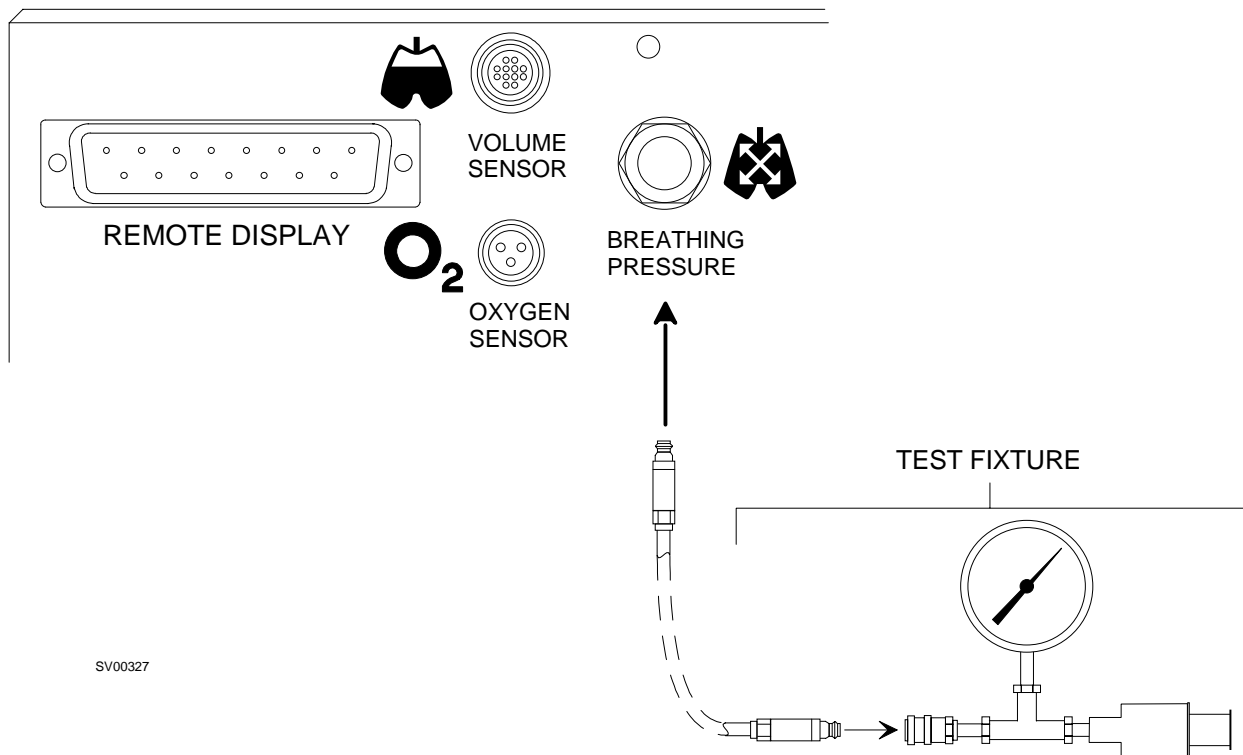

Figure 5-5. Pressure Monitor Calibration
5.5.5.1 With a test fixture connected as shown in Figure 5-5, apply a pressure of 50 cm H₂O to the breathing pressure interface panel.